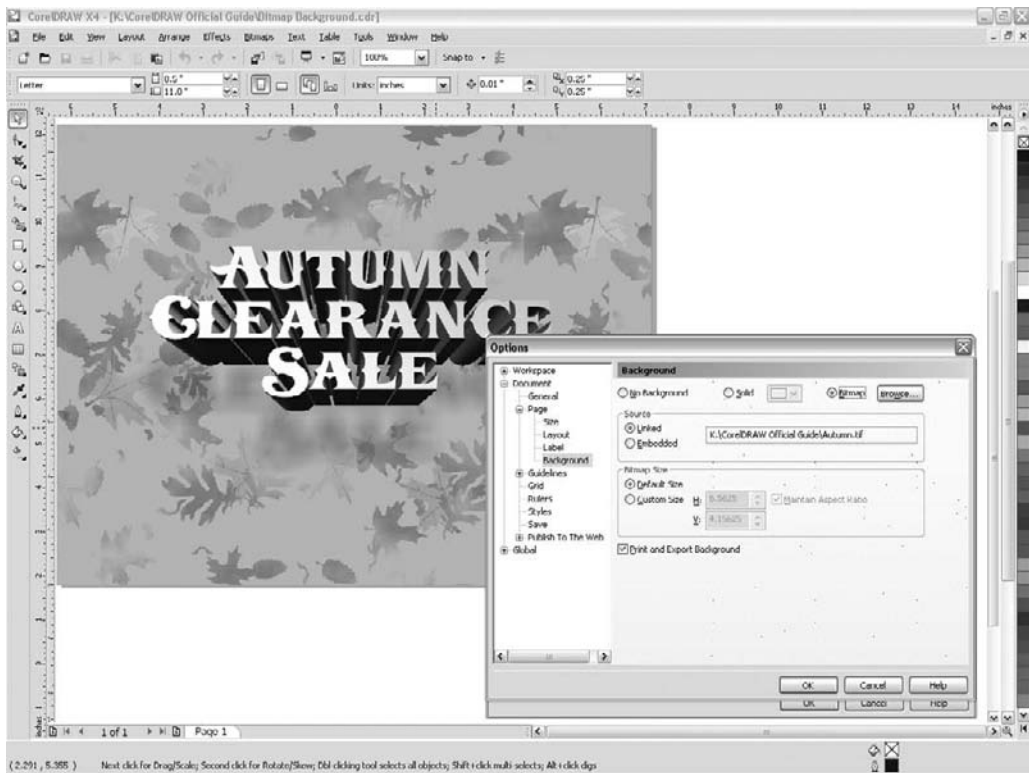

FIGURE 5-4 Use a bitmap as a Background for your design and text.
- **Bitmap** Choose this option to use a bitmap as the page background. Click the Browse button to open the CorelDRAW Import dialog, and locate and choose a bitmap. Background bitmaps are tiled as many times as needed to fill the page. You can also scale the number of repeating tiles by clicking the Custom Size radio button and entering values. The best bitmaps to use for patterns are ones that have been designed to tile seamlessly. In Figure 5-4, you can see an application of a Background Bitmap that is muted in tone (and therefore is suitable for white headline text) and that was designed to seamlessly repeat. The Bitmap option is terrific for creating several different signs or stationery that contain different text but must be tied together in a theme. You might, for example, create different text on layers such as “Autumn Clearance,” “Autumn Sales,” and “Autumn Harvest,” and then print different signs by hiding all but one layer for printing. You can't